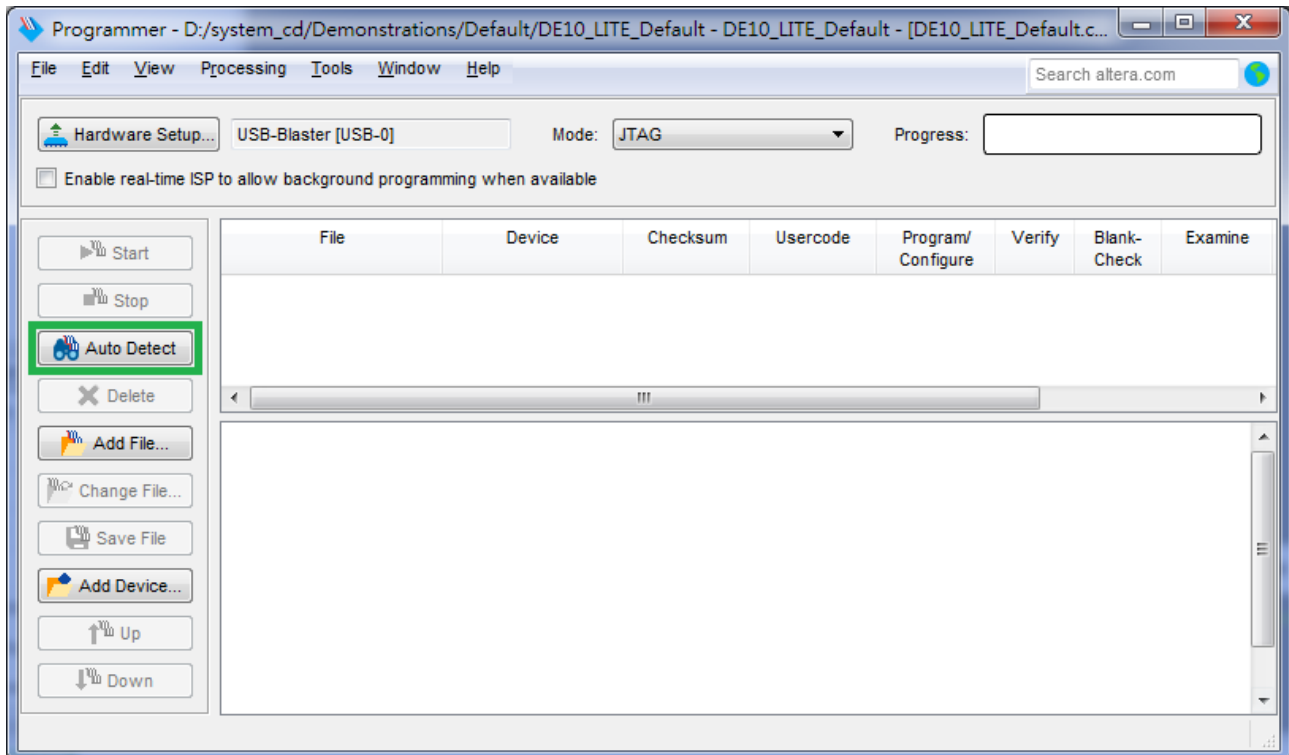

Figure 3-4 Detect FPGA device in JTAG mode
4. Click “Auto Detect” to detect all the devices on the JTAG chain, as circled in **Figure 3-4**.